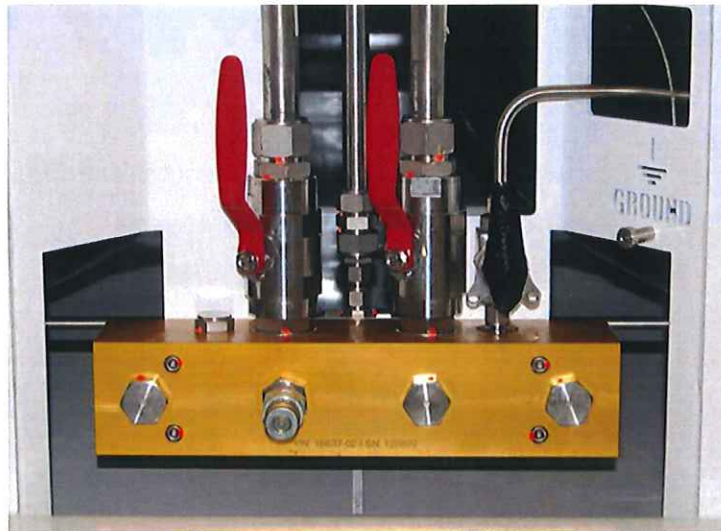

Figure 11 - Manifold Valves in Open Position
9. Open manifold valves. Valve position is shown in Figure 11.